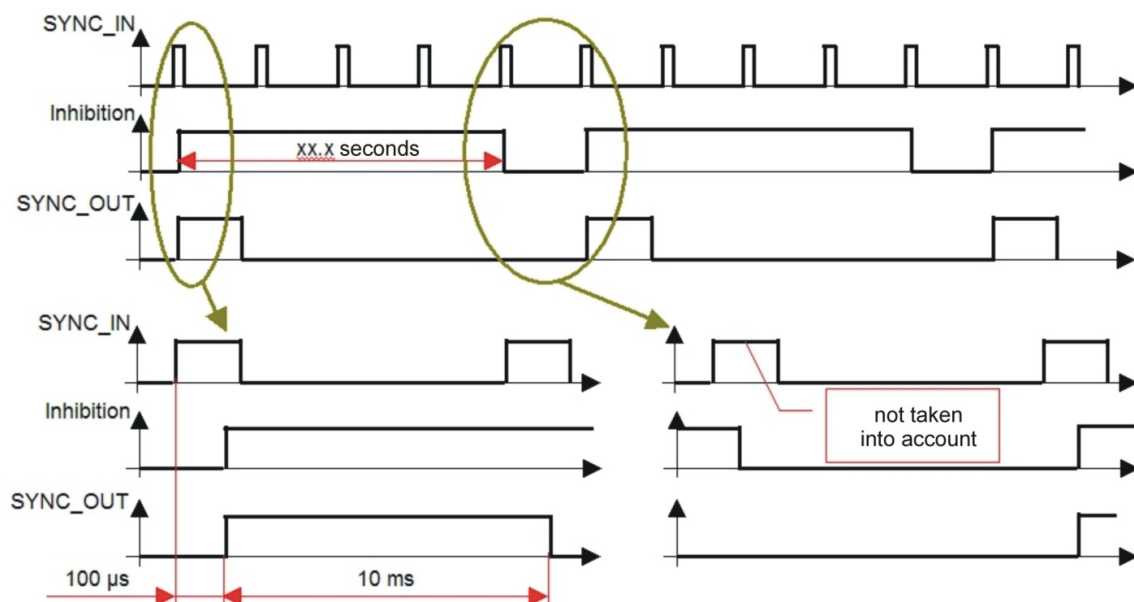

Figure 39 – Inhibition window during an external synchronization
- **External Synchronization with inhibition:** The GAPS minimum recurrence inhibits the short external recurrence after one received trigger. GAPS is triggered on the rising edge of the signal. This mode is described on the Figure 39.